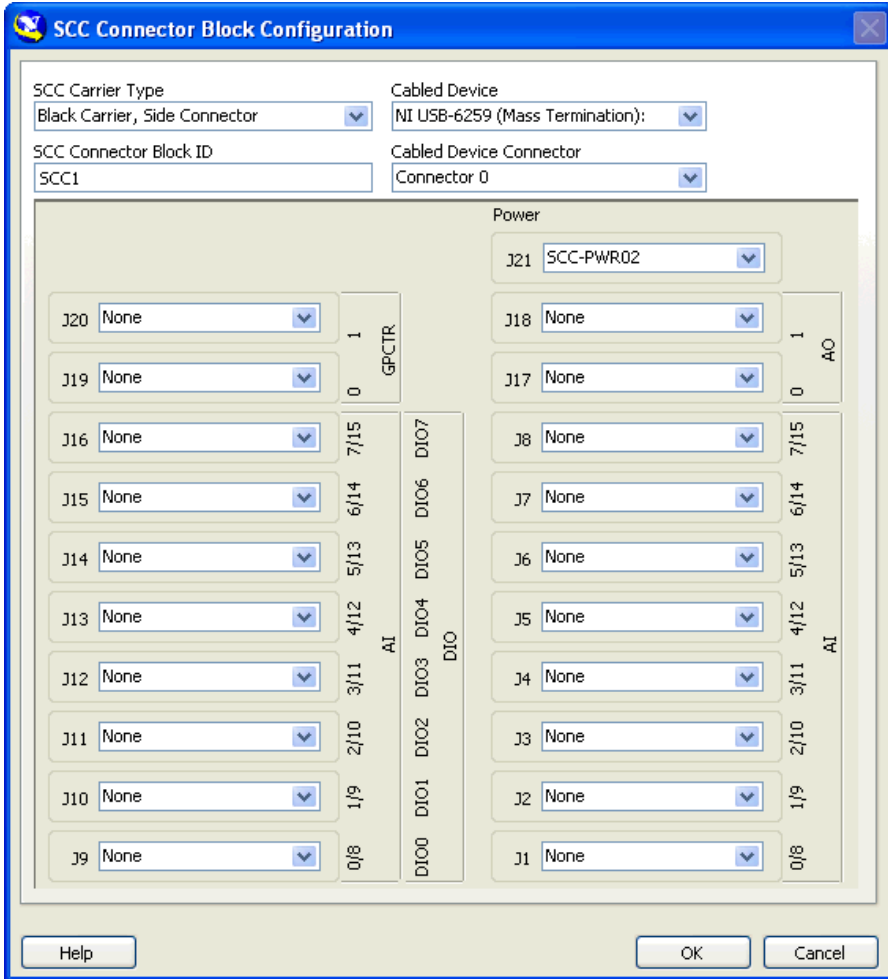

Figure 19. SC-2345 Connector Block Configuration Window
5. Select the carrier under **NI-DAQmx Device»NI-DAQmx SCC Connector Block**. The configuration window opens as shown in Figures 19 and 20.